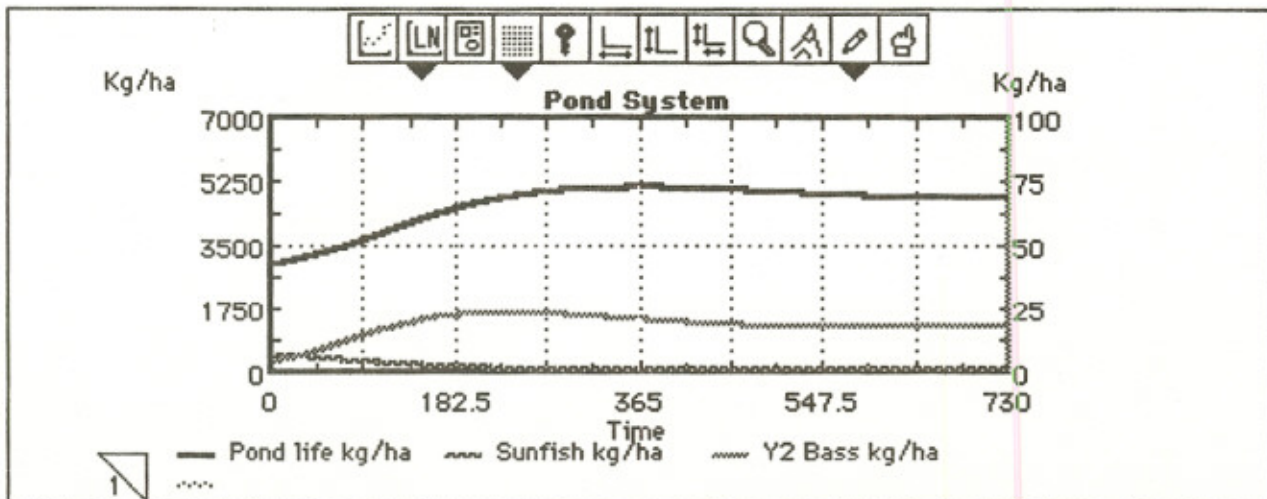

Figure 16. Graph of growth of pond system when the initial quantity of bass biomass was 4 kg.
3. Put in a lower quantity of bass to start, such as 4 kg/ha. Figure 16 shows the result with 4 kg/ha of bass.